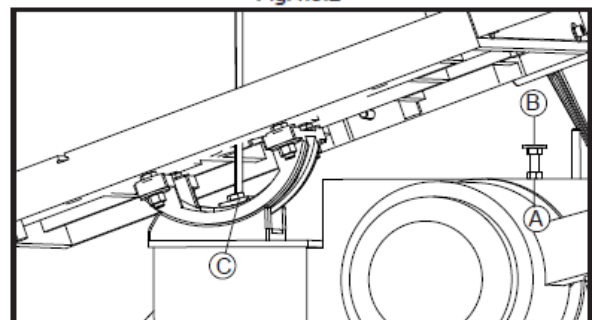

Fig.4.6
- By loosening the screw (C) Fig. 4.6, the worktable are inclined at the desired angle.
- The adjusting screw (B) by loosening the lock nut (A) the 0 degree adjustment can be precisely adjusted.